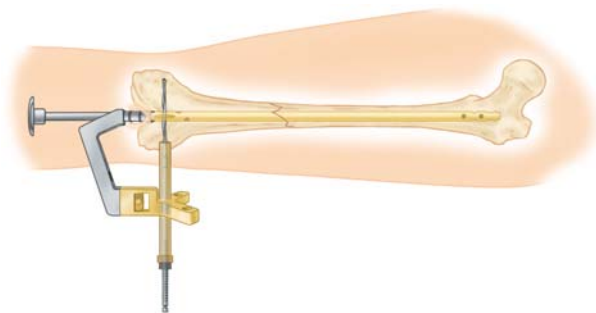
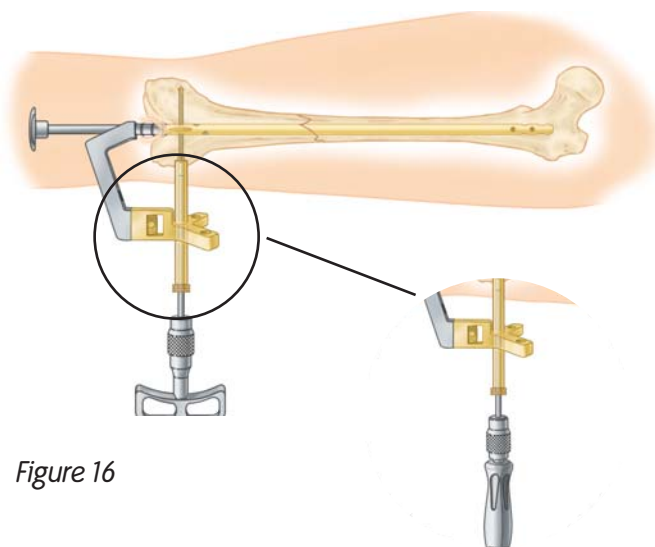

Figure 15
Figure 16
A. Predrill Technique — Make a stab incision and insert the Gold Outer Drill Sleeve (7163-1152) to bone through the appropriate hole in the Knee Guide. Place the Silver Inner Drill Sleeve (7163-1156) through the Gold Outer Drill Sleeve. Connect the Long Pilot Drill (7163-1110) to power using the Mini-Connector (7163-1186) and drill through both cortices. The length measurements are taken from the calibrations off the drill in relation to the end of the Silver Inner Drill Sleeve. The appropriate length 5.0 mm screw (GOLD) is selected and attached to the Screwdriver. The drill and Silver Inner Drill Sleeve are removed and the screw is inserted through the Gold Outer Drill Sleeve (*Figure 15*). Attach Screwdriver to power or use manual T-Handle (7163-1172) or Straight Screwdriver Handle (7163-1163) and place screws in bone. The Screwdriver contains a laser-marked ring. This ring should be stopped short of the Gold Outer Drill Sleeve to prevent final seating of the screw by power. Final tightening of the 5.0 mm screws should always be under manual control using the T-Handle (7163-1172) or Straight Screwdriver Handle (7163-1163) (*Figure 16*). (7163-1163) (*Figure 13*).